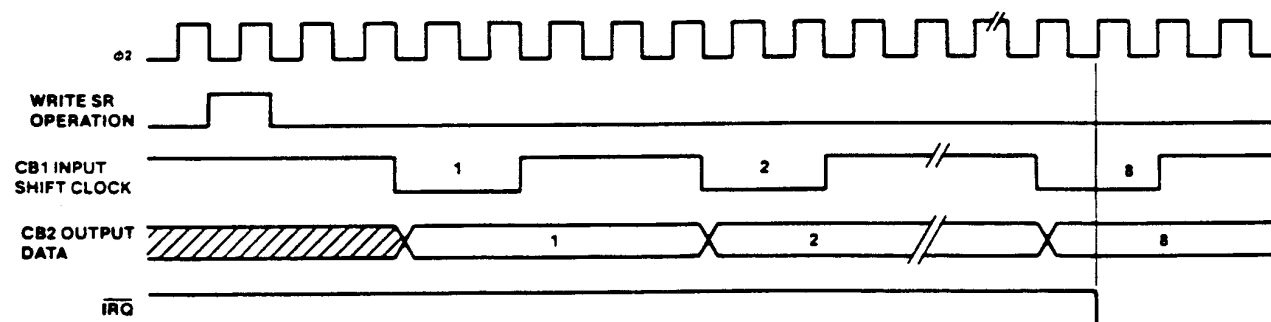

Figure 36. Shift Out—External CB1 Clock Control
Shift Out—External CB1 Clock Control (111)—In this mode, shifting is controlled by external pulses applied to the CB1 line. The Shift Register Counter sets the Interrupt Flag for each eight-pulse count, but does not disable the shifting function. Each time the microprocessor reads or writes the Shift Register, the Interrupt Flag is reset and the counter is initialized to begin counting the next eight pulses on the CB1 line. After eight shift pulses, the Interrupt Flag is set. The microprocessor can then load the Shift Register with the next eight bits of data. Refer to Figure 36.